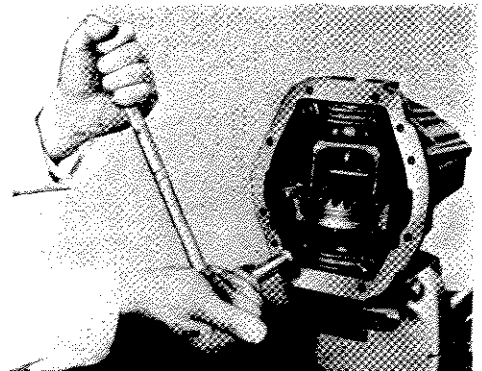

Fig. 62. Removing the differential bearing caps
Remove the bolts (8) and spring washers, and lift out the bearing caps (9), see Fig. 62.